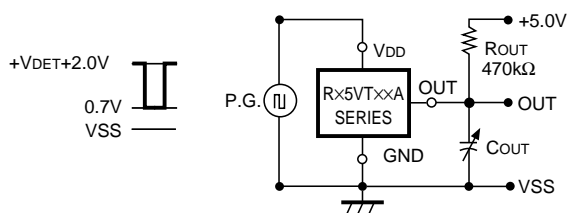

FIG. 7 Output Delay Time Test Circuit (1)
In Output Delay Time Test Circuits (1) and (2) in FIG. 7 and FIG. 8, their respective Output Voltage Fall Times (t_{PHL}) and Rise Times (t_{PLH}) are defined as shown below.